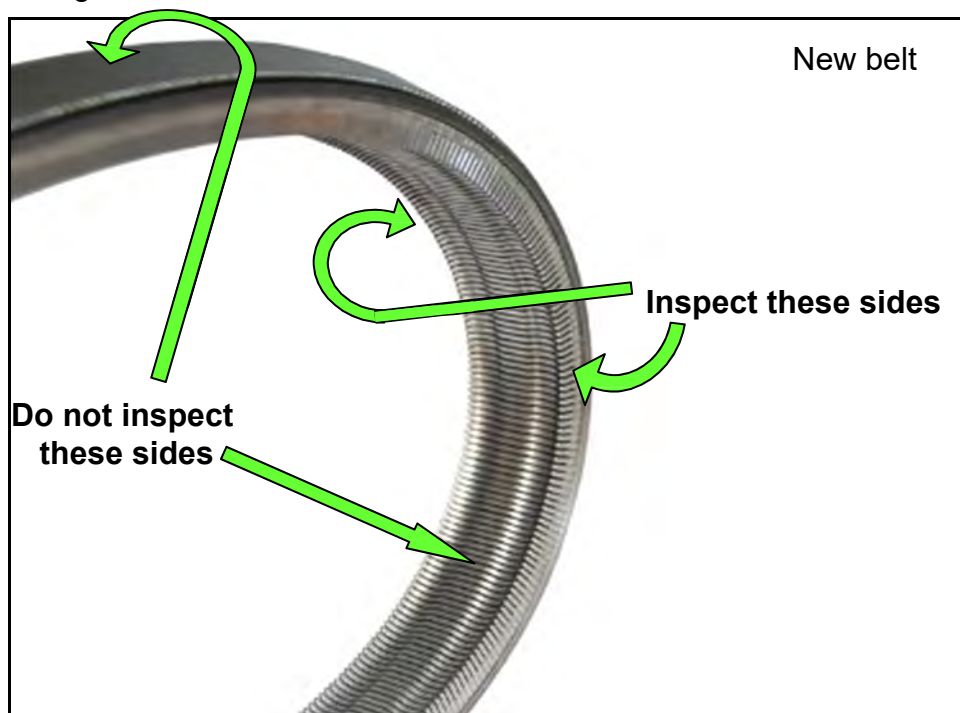

Figure 8
16. Using the steps on pages 8-12, inspect the entirety of the two sides of the belt that come in contact with the pulleys (see Figure 8):